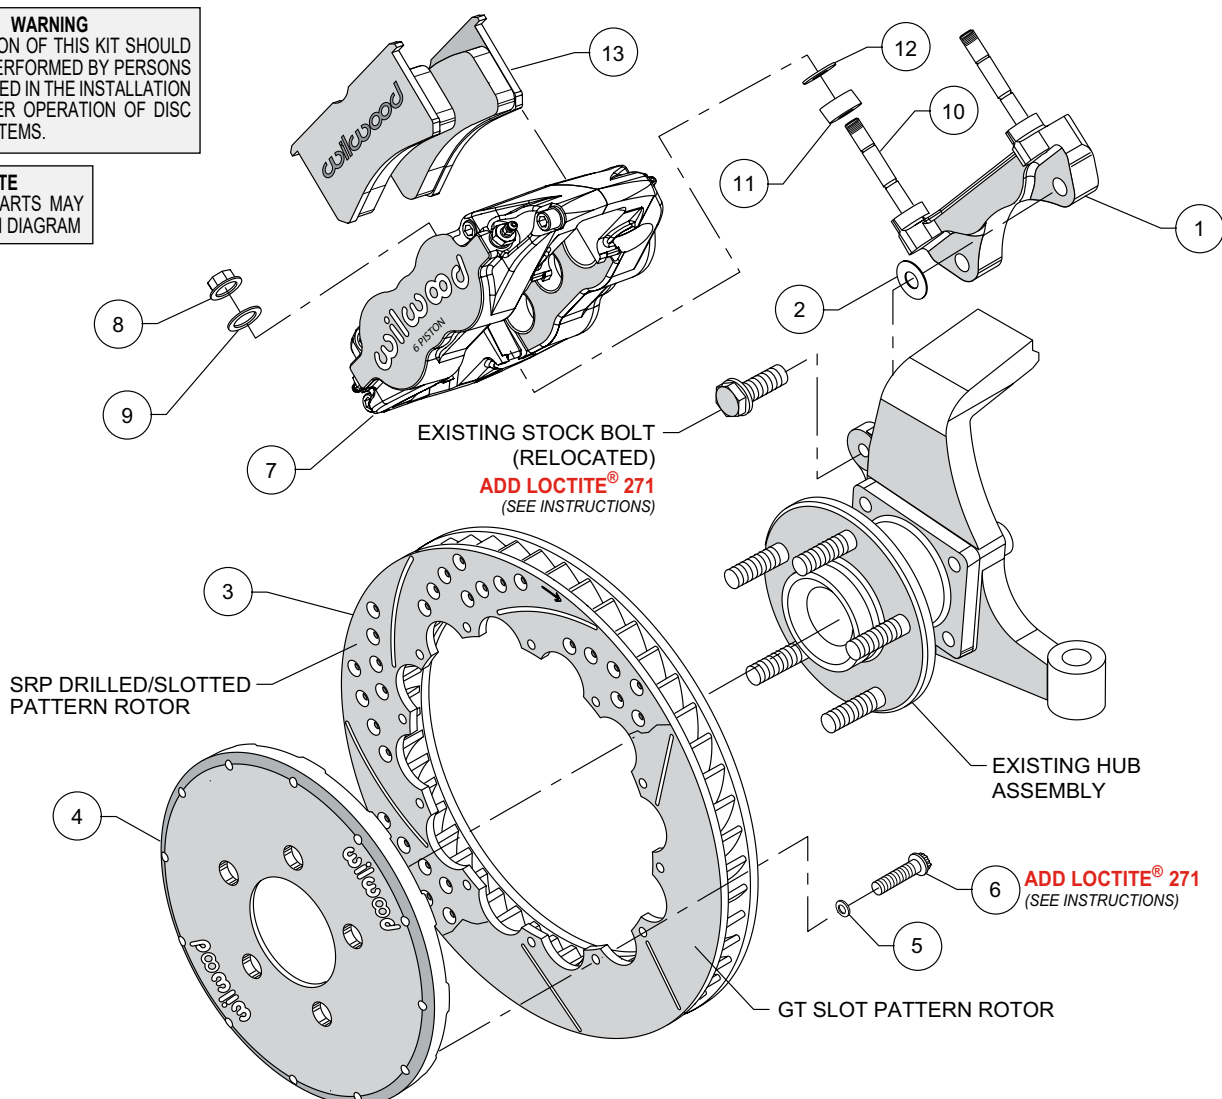

Figure 1. Typical Installation Configuration
- The caliper mount bracket assembly (1) should be installed first with clean, dry threads on the mounting bolts. Install the bracket using the original caliper mount bolts. The bolts will now pass through the spindle from the opposite direction that they were removed as shown in Figure 1 and Photo 1. Use one thin shim (2) between the bracket and spindle during initial trial fitting, Figure 1 and Photo 2. The bracket must tighten squarely against the inboard side of the caliper mount bosses on the spindle body, Photo 3. Inspect for interference from casting irregularities, machining ridges, burrs, etc. Later, after the caliper, pad, and rotor alignment have been checked, and any necessary shims have been put in place, the mount bolts should be coated with red *Loctite*® 271 and torqued to 65 ft-lbs.
- Orient the rotor (3) and hat (4) as shown in Figure 1 and Photo 4. Attach the rotor to the hat with bolts (6) and washers (5). Be sure all bolts thread in smoothly and are snug. Apply red *Loctite*® 271 to the bolt threads and torque to 155 in-lb using a criss-cross pattern. For an added measure of security, the bolts may be safety wired using standard 0.032 inch diameter stainless steel safety wire as shown in Figure 3. Please refer to Wilwood's data sheet DS-386 (available at www.wilwood.com/Pdf/DataSheets/ds386.pdf) for complete safety wire installation instructions.
- NOTE:** This kit contains distinct right and left hand calipers that must be mounted in a specific direction, as described below. Initially place one .035" thick shim (12) and spacer (11) on each stud (10) as shown in Figure 1 and Photo 6. Mount the caliper (7) onto the bracket (1) using lock nuts (8) and washers (9), Figure 1 and Photo 7. Ensure that the caliper is mounted so that the largest pistons are at the rotor exit end of the caliper, in relation to the direction of rotor rotation. Temporarily tighten the lock nuts and view the rotor through the top opening of the caliper. The rotor should be centered in the caliper. If not, adjust by adding or subtracting shims (2) between the bracket and the upright. Always use the same amount of shims on each of the two mounting bolts. Once the caliper alignment is correct, remove the bracket mounting bolts one at a time, apply red *Loctite*® 271 to the threads, and torque to manufacturer's specifications.